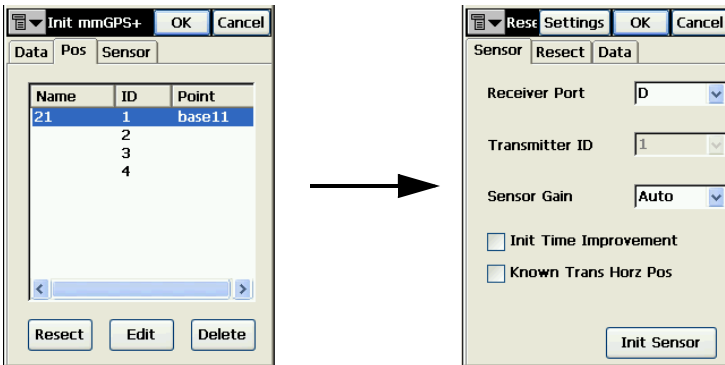

Figure A-1. Select Transmitter and Enter Resect Screen
2. On the *Init mmGPS+* screen and *Position* tab, select the transmitter and tap **Resect** (Figure A-1 on page A-2).
- On the **Resect** screen and *Sensor* tab, tap **Init Sensor** (Figure A-1).